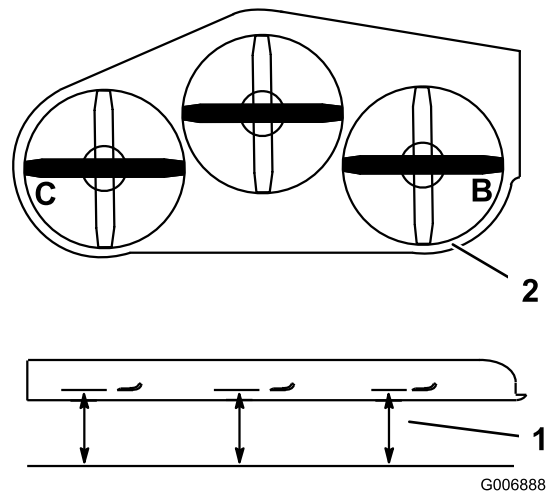

Figure 85
1. Position the **right** blade side-to-side (Figure 85).
2. Measure the right blade at the **B** location, from a level surface to the cutting edge of the blade tip (Figure 85).
4. Position the left blade side-to-side (Figure 85).
5. Measure the left blade at the **C** location (Figure 85), from a level surface to the cutting edge of the blade tip.